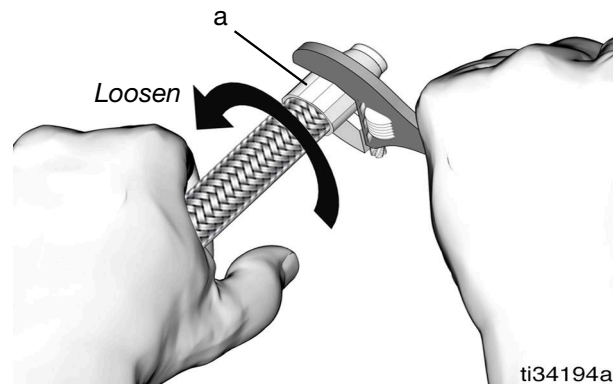

FIG. 63
5. Use a wrench to finish tightening socket (a) until it bottoms out. Then back off 1/4 turn to 1/2 turn (FIG. 63).